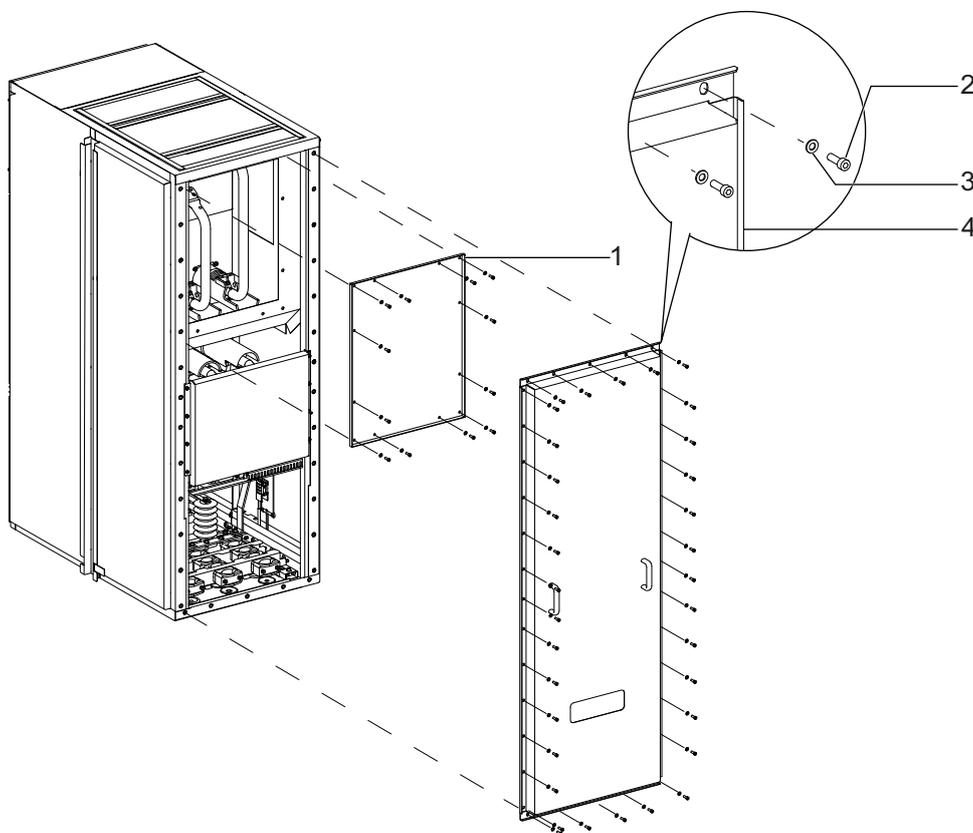

Figure 82
1. Remove the rear cover (4) of the cubicle by unscrewing M8 screws (2) and washers (3) provided on rear cover (4). Refer to Figure 82.